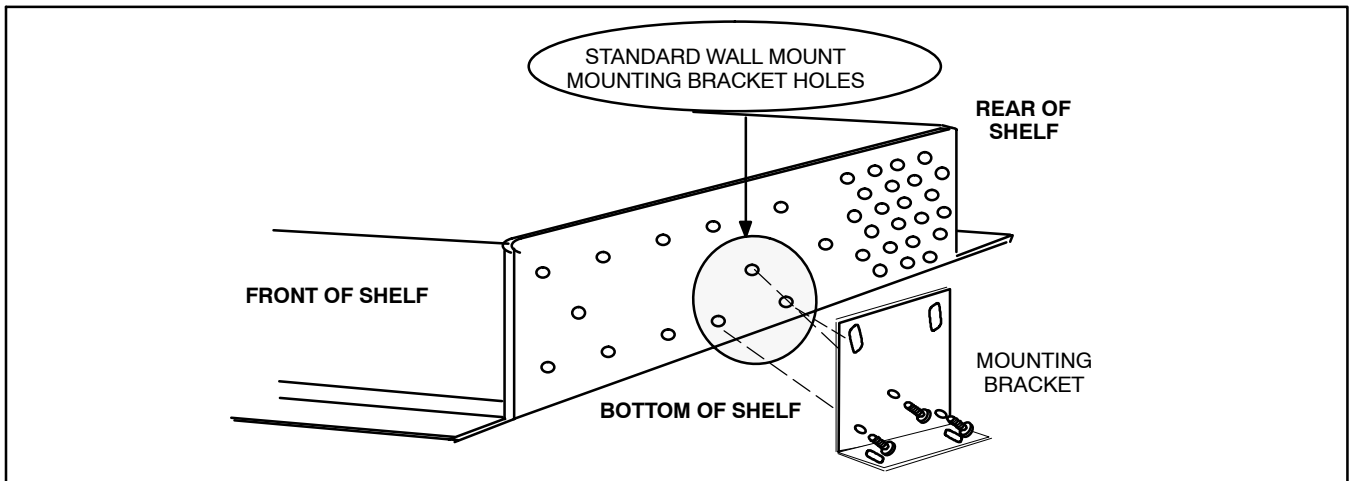

Figure 6. Shelf Mounting Bracket Position for Wall Mounting
1.	Remove and rotate the bracket 90 degrees so that the flat of the bracket is toward the bottom of the shelf (see Figure 6).